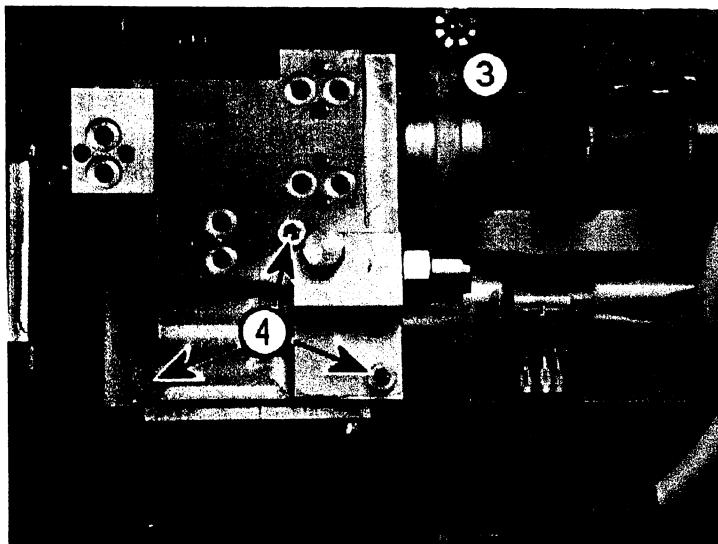

Fig. 12 Metering block mounting
7. Remove the cable ties Fig. 12/3.
8. Remove the metering block fixing screws Fig. 12/4.